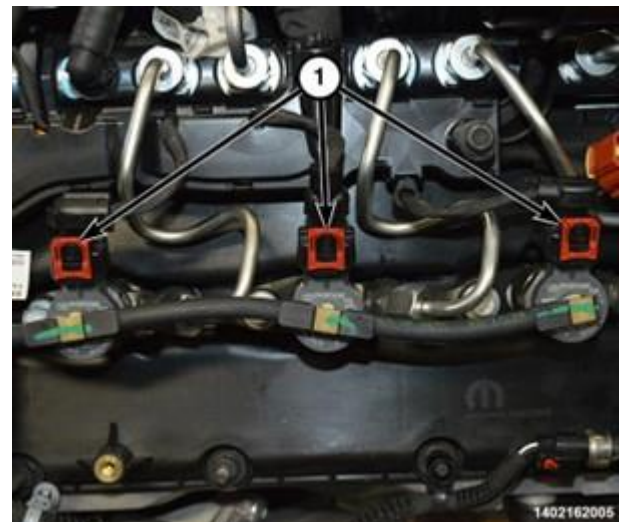

Figure 126 – Fuel Injector Wire Harness Connectors
63. Disconnect the fuel injector wire harness connectors (1) (Figure 126).